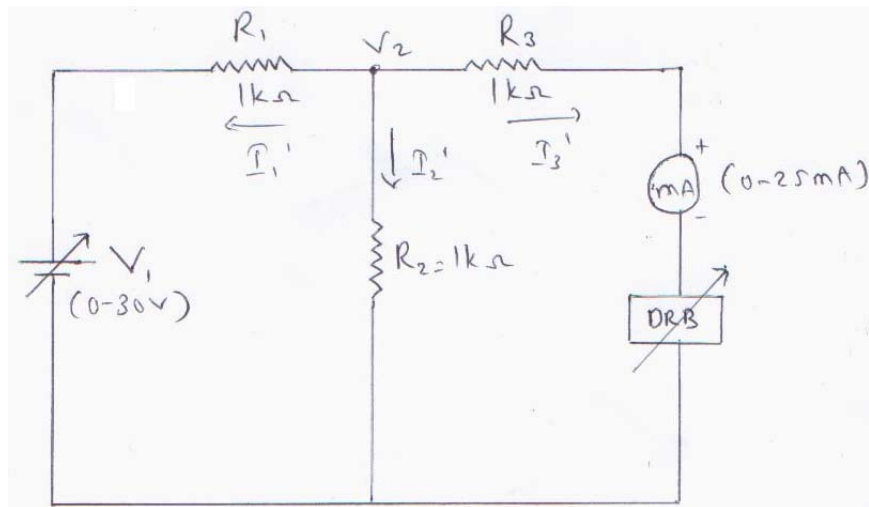

Figure 6.4
3. Now connect the additional resistor (DRB) as shown in figure 6.4